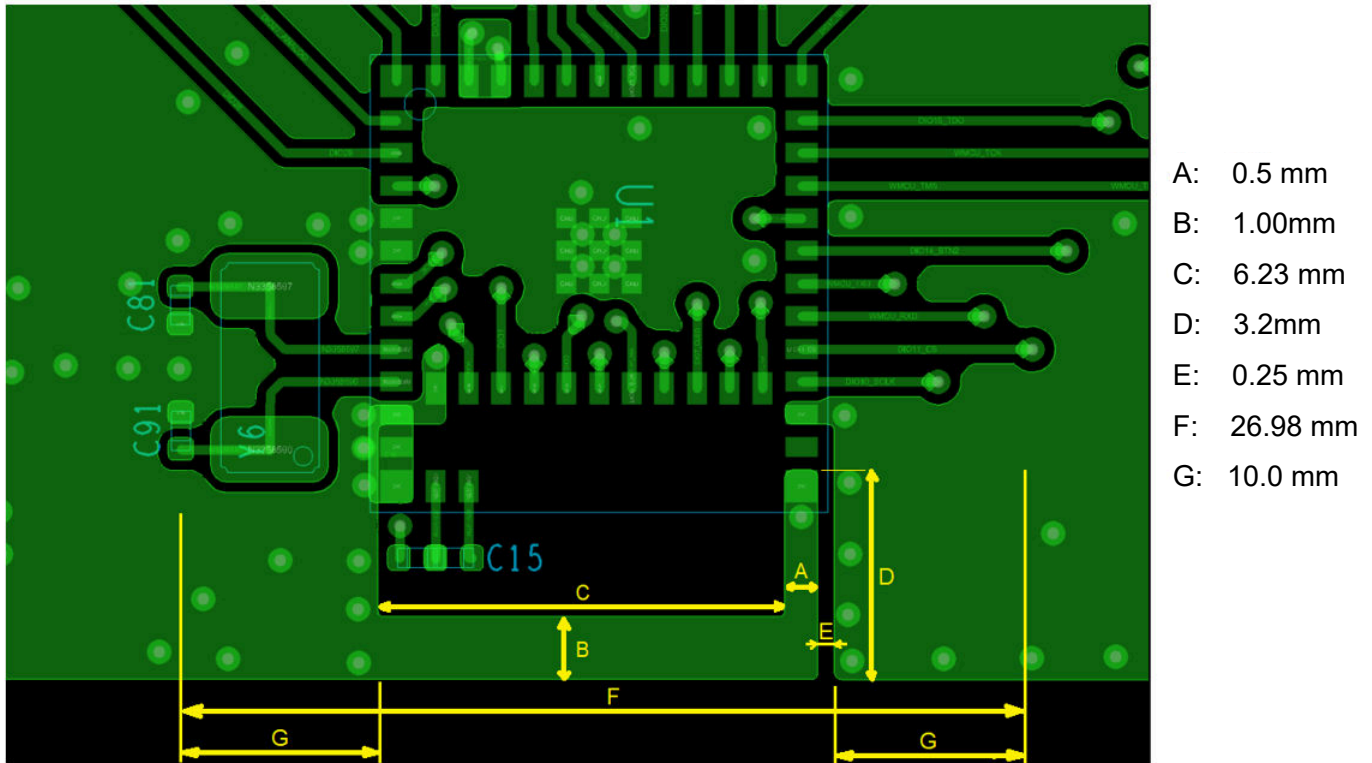

Figure 10-2. Module Layout Guidelines
It is critical that the RF section be laid out correctly to ensure optimal module performance. A poor layout can cause low-output power and sensitivity degradation. Figure 10-2 shows the RF placement and routing of the CC2651R3SIPA module with the 2.4-GHz integrated antenna.
- Dimensions A thru G in Figure 10-2 must be strictly adhered to for optimal RF performance
- The module must have a minimum 10-mm ground plane on either side of the module on all layers as shown with dimension G in Figure 10-2